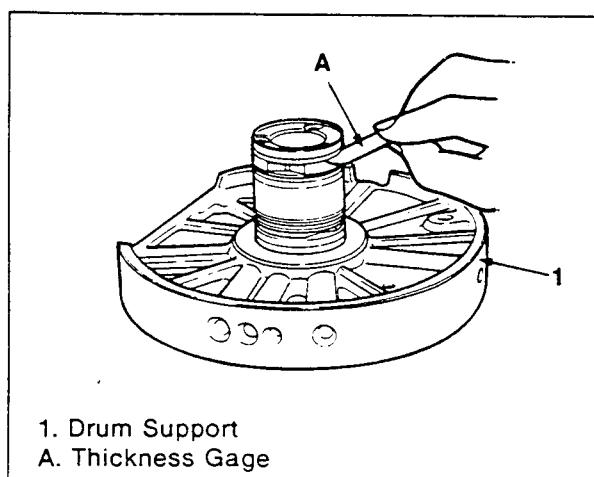

**Figure 178. Plain Seal Installation**
#### Plain Seal and Seal Ring (Figures 178 and 179)
1. Apply special grease (included in the repair kit) to the four new plain seals, and install them to the drum support (figure 178).